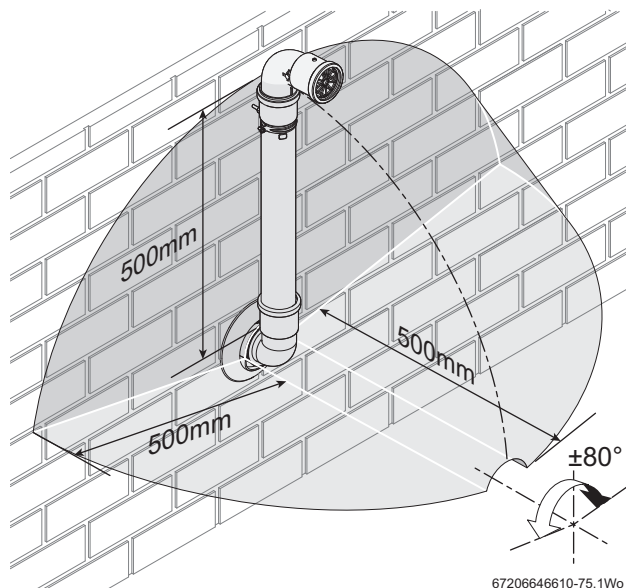

Fig. 18 Terminal exclusion zone
The minimum plume length should be calculated to ensure that the air inlet and exhaust have a minimum distance of 500mm between them (→ figure 18).
► Do not terminate the plume management inside the shaded area shown in figure 18